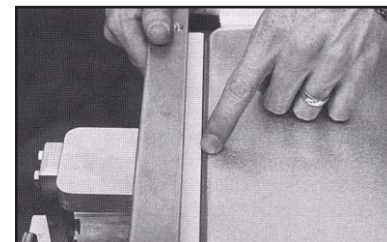

Fig. 34
2. Adjust the rubber grip blades so that they are parallel with the edge of the board. Gap adjustment will vary depending on the jacket and liner thickness. (Fig. 34)